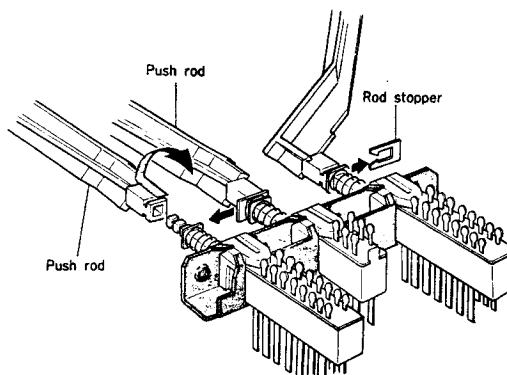

Fig. 4
- 1) Remove the rod stoppers and take out the pus-rods. (Refer to Fig. 4)
- 1) Remove the rod stoppers and take out the push-rods. (Refer to Fig. 4)
(Refer to Fig. 4)